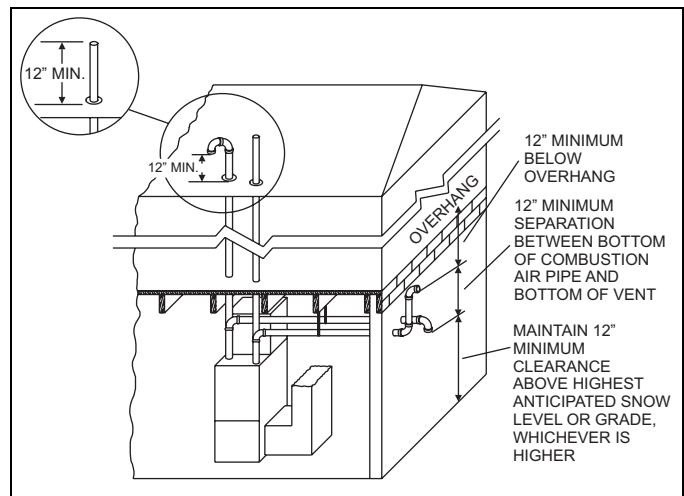
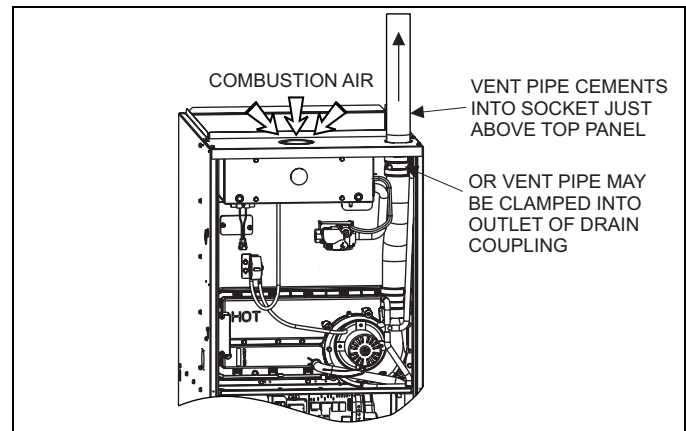

FIGURE 16: Termination Configuration - 2 Pipe Basement
FIGURE 20: Combustion Airflow Path Through The Furnace Casing
7. Sealed combustion air systems must be installed so the vent and the combustion air pipes terminate in the same atmospheric zone. Refer to Figures 16 and 17.
6. Sealed combustion air systems must be installed so the vent and the combustion air pipes terminate in the same atmospheric zone. Refer to Figures 16 and 17.
The combustion air side of the two-pipe configuration shown in Figure 20 can be installed so the combustion air pipe terminates as described in outdoor combustion air or ventilated combustion air sections in these instructions. Follow the instructions for outdoor combustion air or ventilated combustion air and the instructions for installing the vent system with the vent terminating as shown in Figures 16 and 17. The two-pipe system must have a separate combustion air pipe and a separate vent pipe for each furnace. Under NO circumstances can the two combustion air or vent pipes be tied together. The combustion air and vent pipes must terminate in the same atmospheric zone.
1. **OUTDOOR COMBUSTION AIR:** This is a sealed combustion air configuration where the combustion air is supplied through a PVC or ABS pipe that is connected to the PVC coupling attached to the burner box and is terminated in the same atmospheric zone as the vent. This type of installation is approved on all models. Refer to Figure 20.
This installation requires combustion air to be brought in from outdoors. This requires a properly sized pipe (Shown in Figure 20) that will bring air in from the outdoors to the furnace combustion air intake collar on the burner box. The second pipe (Shown in Figure 20) is the furnace vent pipe.